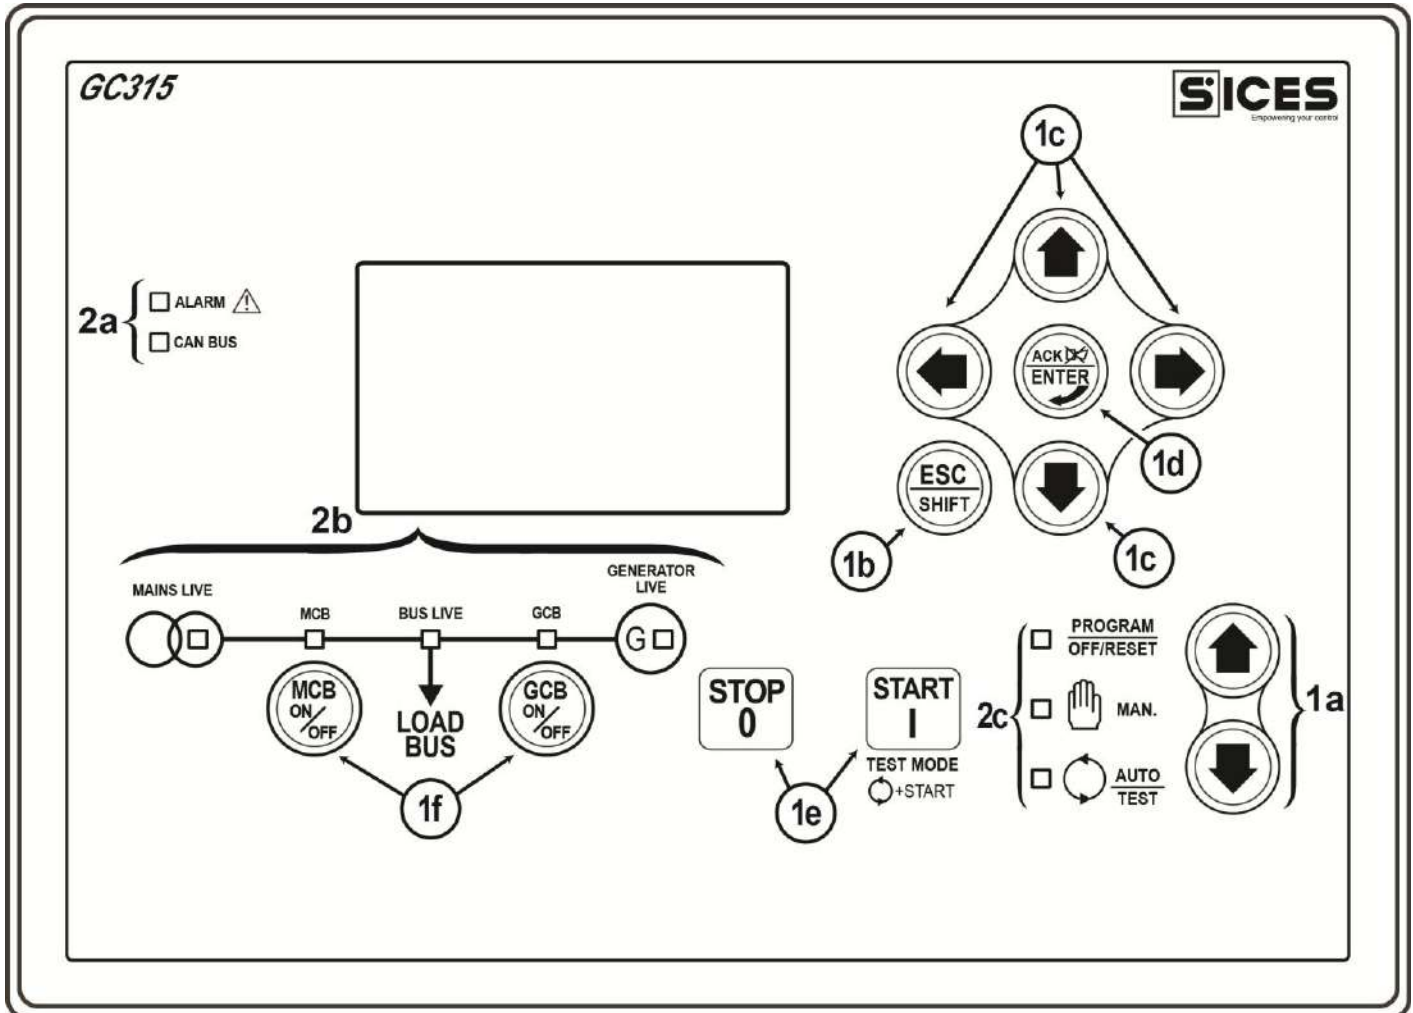

Fig. 1 – Front Panel GC315
5.4 Buttons (ref. to fig. 1, 2, 3)
5.5 Indicators (ref. to fig. 1)